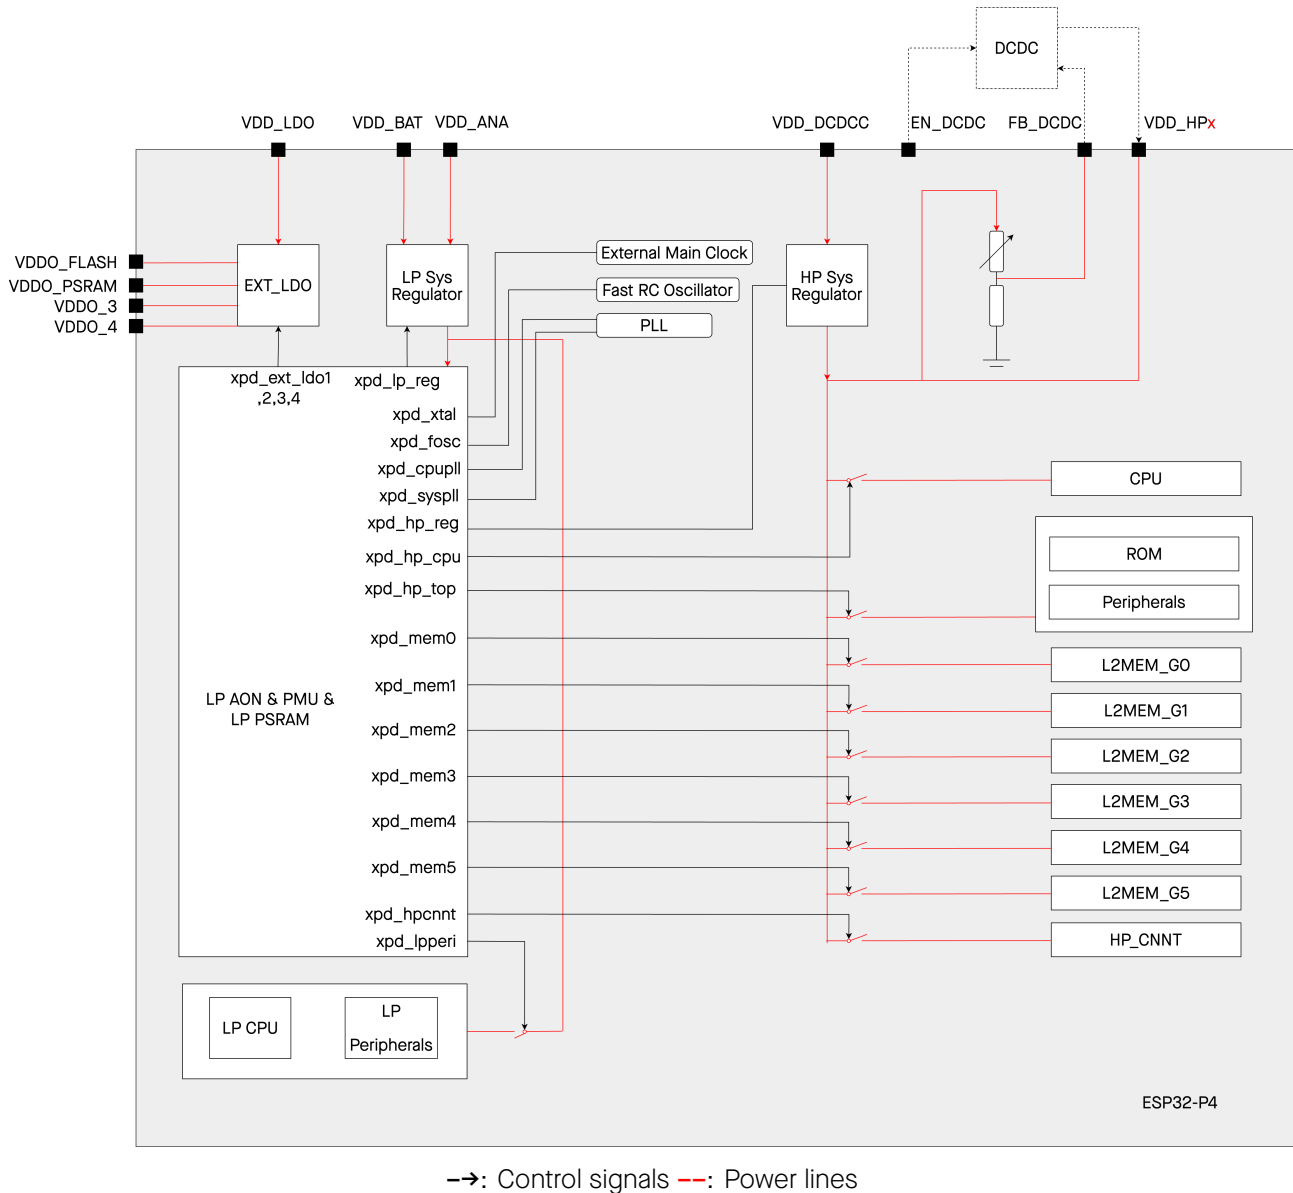

Figure 14.4-1. ESP32-P4 Power Scheme
As shown in Figure 14.4-1, the analog section of ESP32-P4 includes one external DCDC with feedback regulation and two internal HP/LP system regulators, responsible for regulating the power supply for different power domains.
- **L2MEM_G0–G5**: It is divided into six sub-power domains, as shown in Figure 14.4-1.